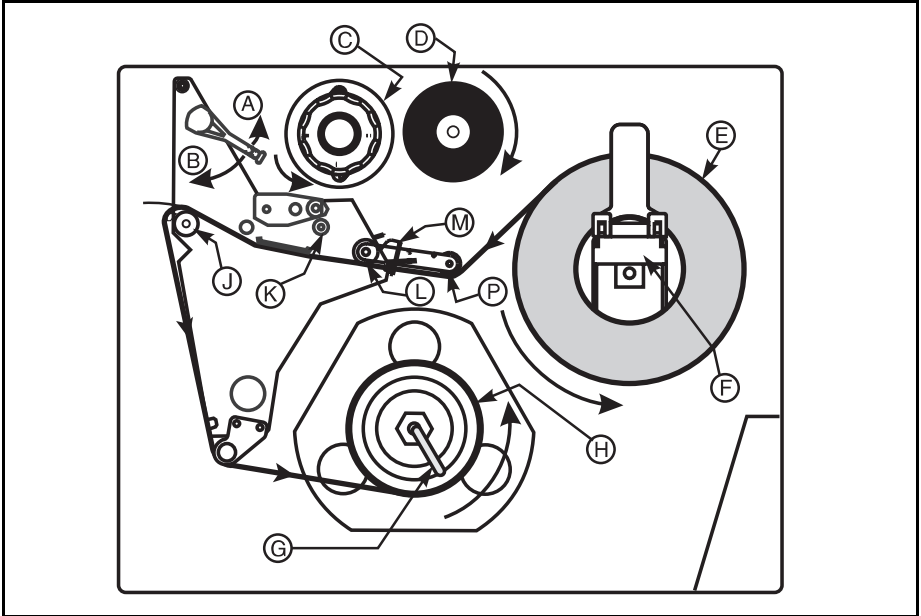

Figure 1. Media Loading
1. Place the Media Roll (Fig. 1-E) on the Media Hanger (Fig. 1-F) or optional Supply Spindle.
2. Open the printhead by moving the lever located on the Upper Printhead Assembly to the open (Fig. 1-A) position.
3. Loosen the Media Guide (Fig. 1-M) Thumb-screw and position the Guide as far out from the printer frame as possible.
4. Thread the media under the Dancer Arm Assembly (Fig. 1-P), under the Lower Roller (Fig. 1-L), between the upper media guide plate and main media guide, under the printhead, and over the Platen (Fig. 1-J).
5. Adjust the Media Guide (Fig. 1-M) position until it just touches the outer edge of the media without causing it to buckle, make sure it is parallel to the edge of the media, then tighten the thumbscrew.
6. Close the printhead by moving the lever located on the Upper Printhead Assembly to the closed (Fig. 1-B) position.
3. Remove the Hook (Fig. 1-G) from the Take-Up Spindle Shaft (Fig. 1-H). If you are using a core, remove all tape from the core and slide it onto the Rewind Spindle until it is flush against the guide plate.
**Note:** Before closing the Printhead Open Lever, make sure that throughout the media pathway (1) the media is positioned against the inside guides, and the outer guide and Media Supply Guide barely touch the media, (2) the media is taut, and (3) the media is parallel with itself and with the pathway when wound on the Rewind Spindle/core.
6. Remove the Hook (Fig. 1-G) from the Take-Up Spindle Shaft (Fig. 1-H). If you are using a core, remove all tape from the core and slide it onto the Rewind Spindle until it is flush against the guide plate.
7. Route the media as shown in Figures 1 and 2 and wind it 1-2 times around either (1) the Media Take-Up Spindle and reinstall the Hook, or (2) a 3" (76.2 mm) core. (With some types of media, especially tag stock, you may need to tape the end of the media to the core if it will not otherwise tighten onto the core. **DO NOT** tape the label stock unless absolutely necessary.)
Adjust the Media Guide (Fig. 1-M) Thumbscrew to keep the media from drifting. Make sure it is parallel to the edge of the media.
When loading ribbon, make sure that the ribbon core is pushed up against the stop on the Ribbon Supply Spindle (Fig. 1-D). *Do not use ribbon narrower than the media.*